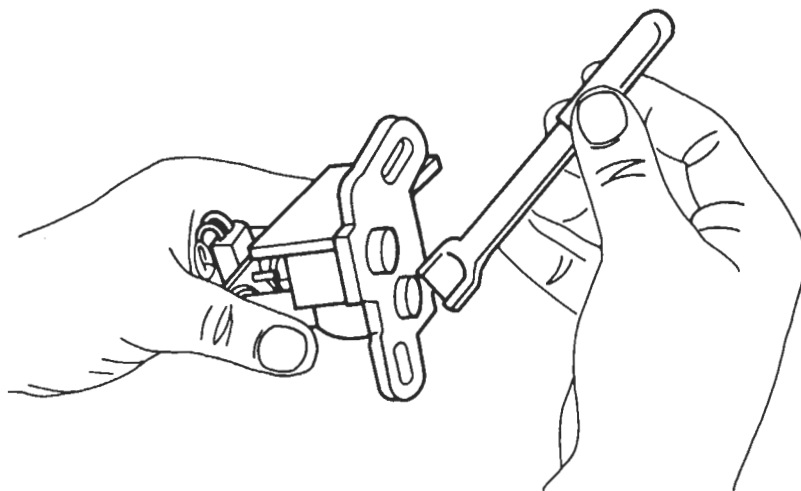

Figure 6. SRS/TRS Timing Tool Insertion
2. Insert the SRS/TRS Timing Tool between the double teeth on the Pulse Wheel, and the TRS so that the groove at the rear of the tool slides over the teeth in the Pulse Wheel (Figure 6.)